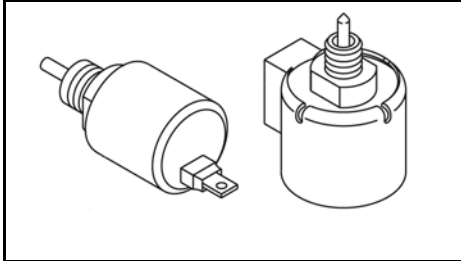

Figure 42
1. Disconnect wire(s) from the carburetor solenoid. Two styles of solenoids have been used (Figure 42).